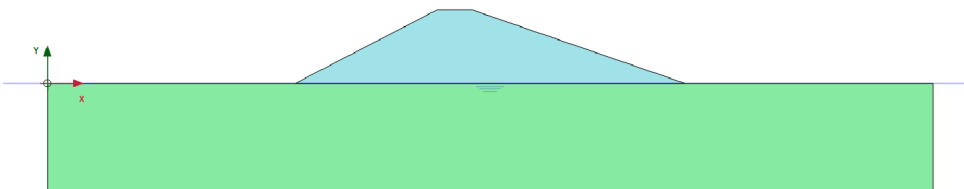

Figure 32: Configuration of phase 1
2. Right-click on the embankment and from the popup menu select the **Activate** option to activate the soil representing the embankment. The model of phase 1 is shown in Figure 32 (on page 43).